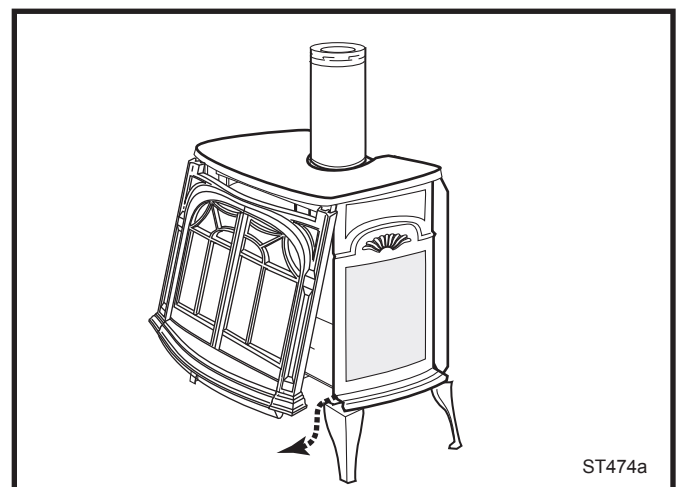

Fig. 75 Remove the stove front.
2. Lift the Stove Front up and then swing the bottom out to disengage it from the heater shell. (Fig. 75)
Replace glass only with MHSC approved parts. Refer to Page 44 for Replacement Parts. Refer to Figures 75 & 76 for removal of the damaged glass frame.